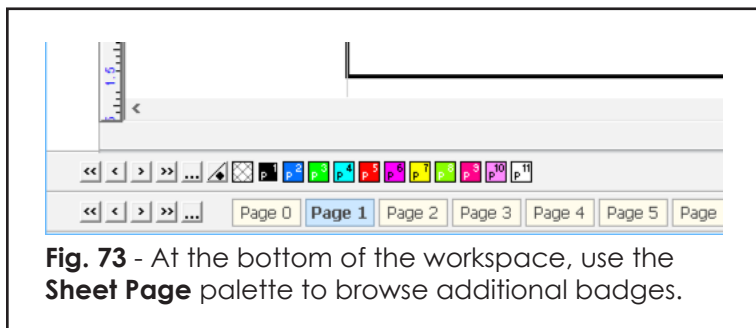

Fig. 73 - At the bottom of the workspace, use the **Sheet Page** palette to browse additional badges.
19. To view the remaining badges, use the **Sheet Page** palette at the bottom of the workspace (Fig. 73).